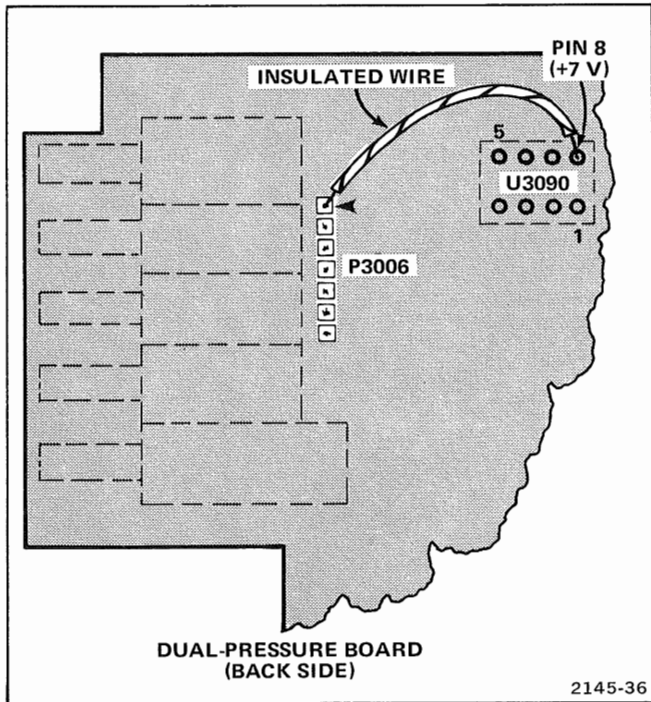

Figure 1-23. Adding wire to 414FA Dual-Pressure Board.
3. For 414 FA Monitors Serial Numbers B010100-B041281: Add a short length of insulated wire (from kit) to the back side of the Dual-Pressure Board between pin 1 of P3006 and pin 8 of U3090, see Figure 1-23. Note that it can be done without removing the Dual-Pressure Board.